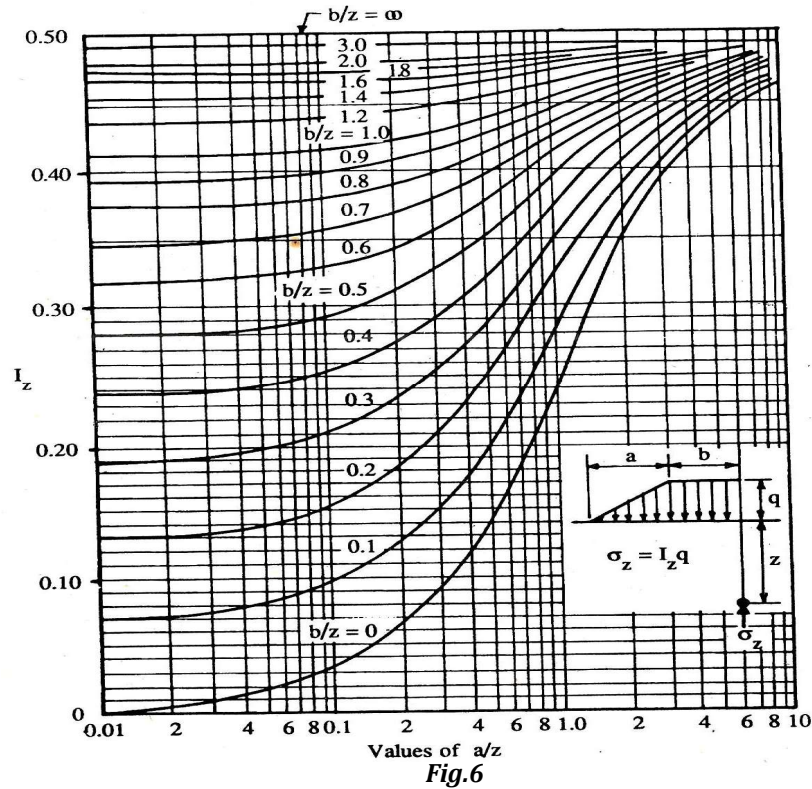

Fig.6
7. (a) A 4 m high embankment is to be constructed as shown in the Fig.5. If the unit weight of the soil used in the embankment is 18 kN/m³, calculate the vertical stress due to the embankment loading at P_1 and P_3 . Use Fig.6 to calculate stress influence coefficient (I_z).